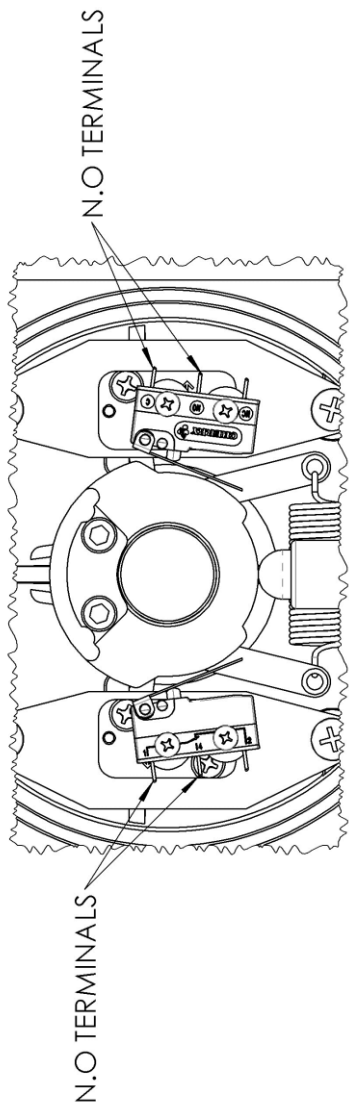

Figure 14: Diagram showing the terminals on each microswitch that make a N.O circuit.
- a. The actuation lever of the microswitches ② are clear of any obstructions through their range of motion.
- b. The microswitch ② lever is depressed enough to actuate the switch contacts when the jog lever is pushed. This can be done by checking for continuity across the Normally Open (N.O) terminal 4 and the Common(C) terminal 1. See Figure 14 for clarity on terminals being checked. When the switch is depressed, terminals 1 and 4 should have continuity. Make sure:
- c. The microswitch ② lever is raised enough to open the switch contacts when the jog is in its rest position. This can be done by checking for an open circuit(no continuity) across the Normally Open and Common terminals. When the jog lever is in its rest position, there should be no continuity across terminal 1 and 4 on either microswitch.